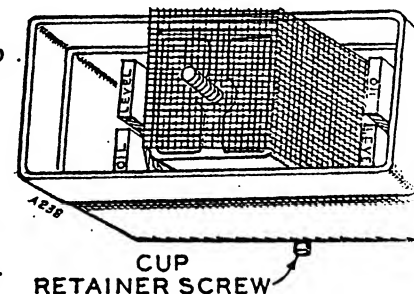

FIG. 20-AIR CLEANER SERVICE
**AIR CLEANER.** - Remove the element and cup from the air cleaner (See Fig.20) and thoroughly clean them in gasoline or other suitable solvent. Allow the element to dry out by using compressed air before replacing it. Refill the cup to the level shown in the cup with oil of the same grade used in the engine crankcase except as noted under Abnormal Operating Conditions.